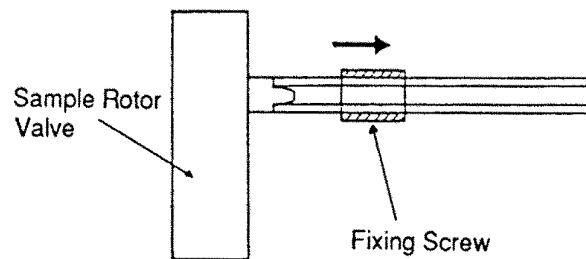

Figure 6-4-2 Removing Sample Aspiration Tube
- C. Loosen the Fixing Screw which tightens the Sample Aspiration Tube as shown in Figure 6-4-2. Remove Blood Aspiration Tube from Sample Rotor Valve.